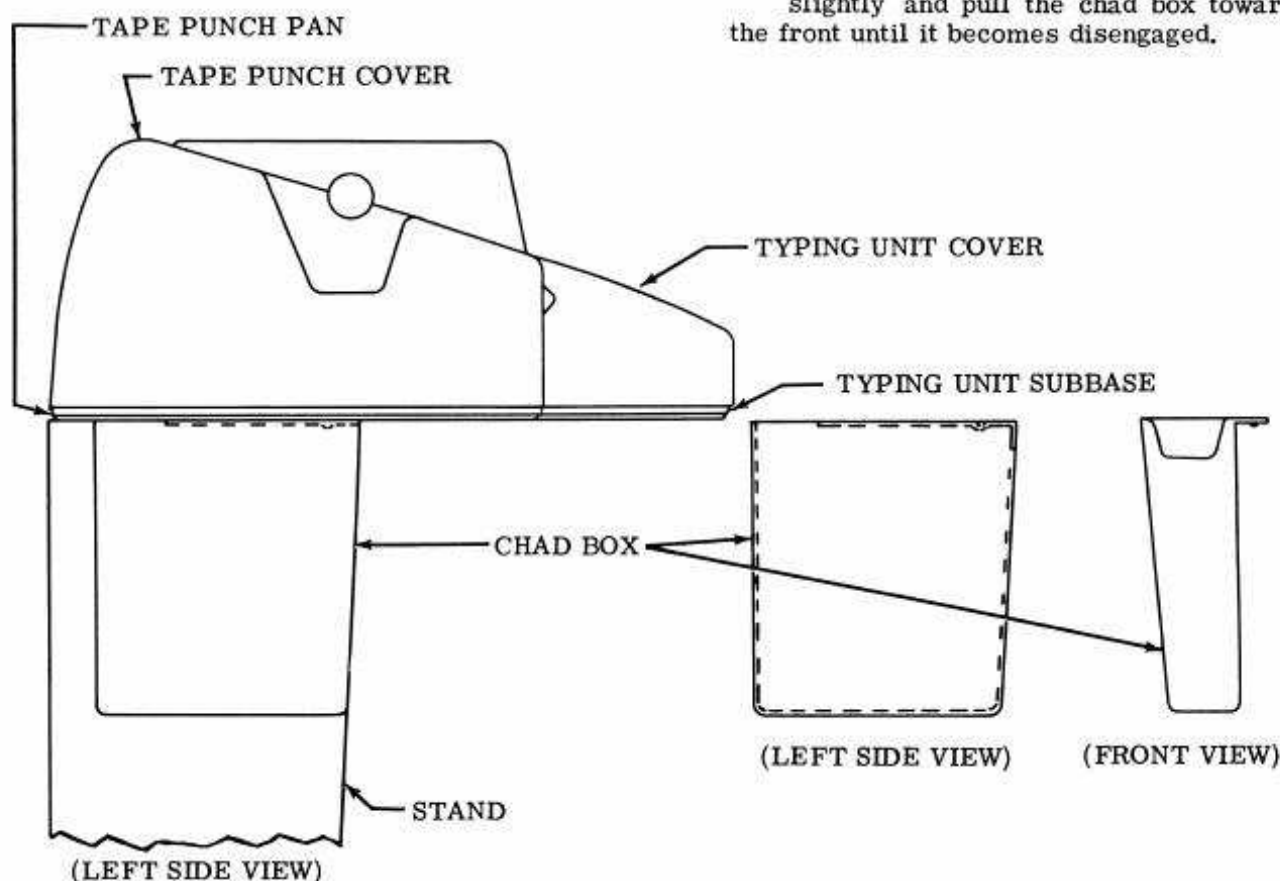

Figure 13 - Tape Punch Chad Chute Assembly
7.03 Figure 13 illustrates how the chad box assembly should be installed.